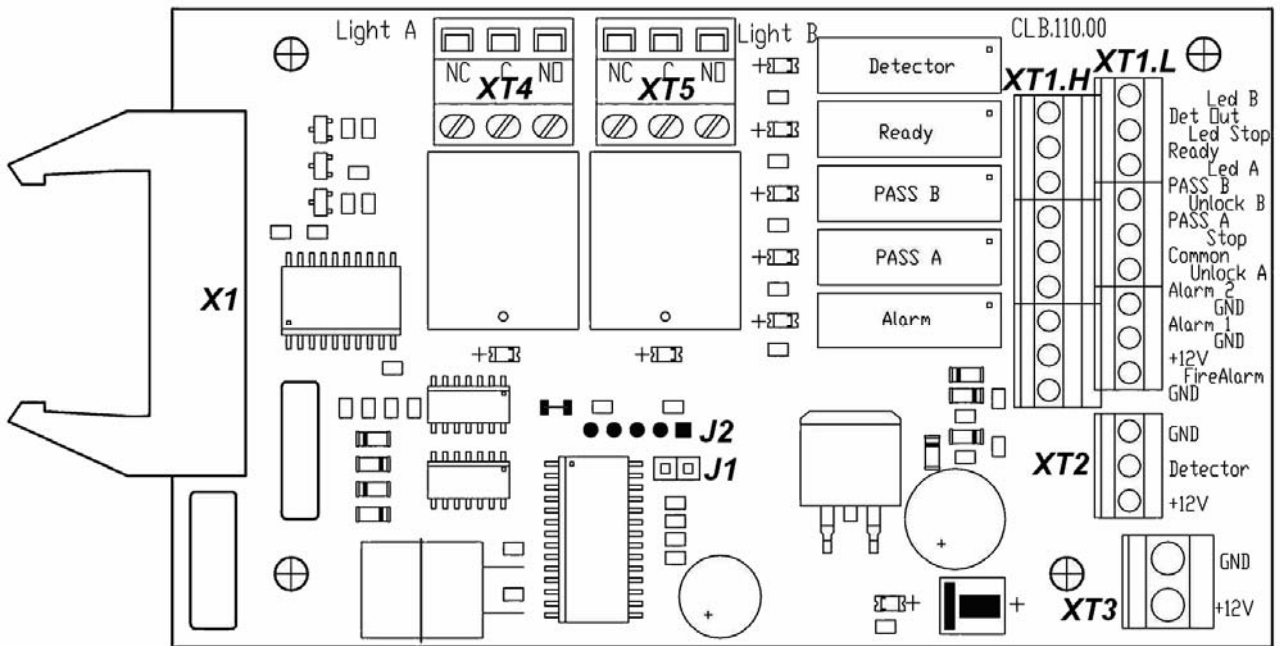
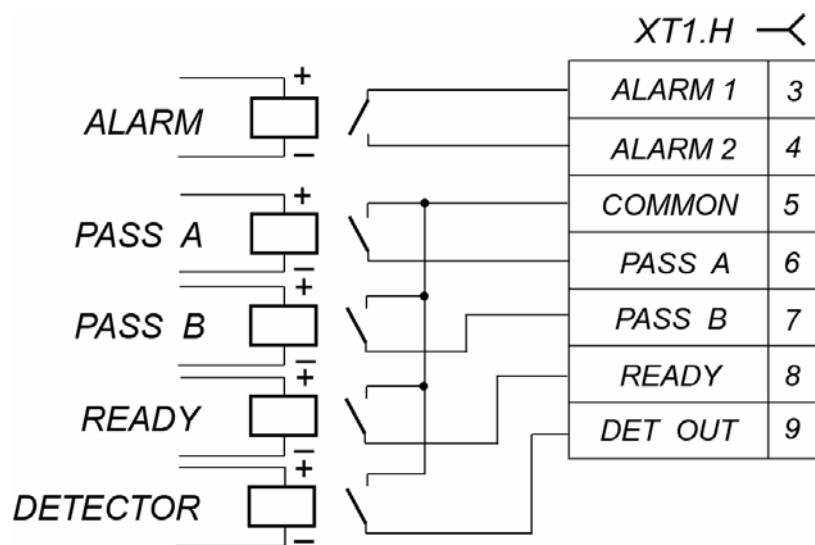

Figure 2. Control Logic Board (CLB)
Figure 6. Output cascades for PASS A, PASS B, Ready, Det Out and Alarm
The CLB (Fig. 2) contains:
Connection of the stated devices is made with the cable (6) to the corresponding connector blocks **XT1.L** or **XT1.H** of the CLB in accordance with the connection layout (Fig.2 and Fig. 10).
If the turnstile orientation relatively to the operator’s terminal is not standard (e.g. the terminal is placed at the backside of the turnstile housing), the RC-panel orientation towards the turnstile can be changed by swapping the RC wires connected to the contacts *Unlock A* and *Unlock B* as well as contacts *Led A* and *Led B* accordingly (Fig. 2 and 10.).
The relays “PASS A” (contacts *PASS A* and *Common*), “PASS B” (contacts *PASS B* and *Common*), “Ready” (contacts *Ready* and *Common*), “Detector” (contacts *Det Out* and *Common*) and “Alarm” (contacts *Alarm 1* and *Alarm 2*) have normally open contacts. The “Common” contact, at that, is not connected to the turnstile power supply negative terminal. In the initial (inactive) state, when the power is on, the relay contacts *PASS A*, *PASS B*, *Ready* and *Detector* are closed (voltage is supplied to the relay coil) and the “Alarm” relay contacts are broken (voltage is not supplied to the relay coil). Opening/closing of “PASS A”, “PASS B”, “Ready”, “Detector” and “Alarm” relays are indicated by lighting up/going down of the red test indicators located near the corresponding relays (Fig. 2). The output cascades for “PASS A”, “PASS B”, “Ready”, “Det Out” and “Alarm” are the relay contacts with the following signal characteristics (Fig. 6):
The control mode is set by the jumper on the **J1** connector (the **J1** connector location is shown on Figure 2: the jumper is installed – the pulse control mode, the jumper is not installed – the potential control mode). The jumper is installed at delivery.
An intrusion detector is connected to the **XT2** connector block, and a siren is connected to the **XT1.H** connector block of the CLB according to the connection layout (Fig. 2 and 10). There should be normally closed contacts on the intrusion detector.
A signal on current status of the intrusion detector is constantly transmitted to the *Det Out* and *Common* contacts of the CLB **XT1.H** connector block (Fig. 2).